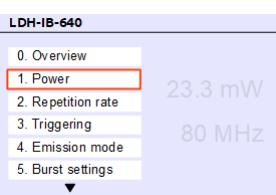

Fig. 13: The local interface main menu.
The local interface for the Taiko PDL M1 is menu based and uses a single push dial for navigation and setting of parameters. The main menu (see fig. 13) is accessed by simply pressing once on the push dial (D).